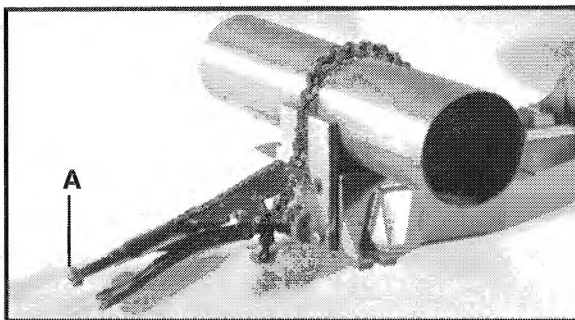

Fig. 11
3. Pass clamping chain over the work and through the notch in the stationary fence, as shown in Fig. 11.
6. Squeeze the top and bottom levers of the clamp together to lock material to be cut in place, as shown in Fig. 11.
**NOTE:** Clamping tension may be regulated by turning the adjusting screw (A) Fig. 11, protruding from the end of the top lever of the vise grip clamp.